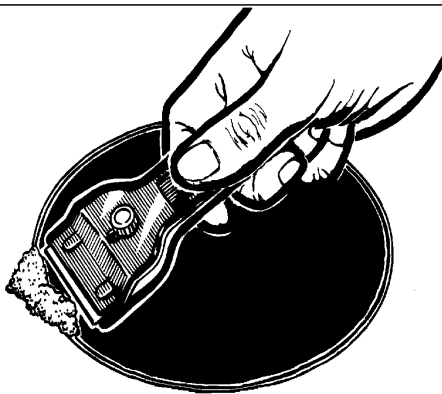

FIG. 5
- Burnt or soiling may be removed with a special razor scraper (fig. 5); **be aware that the razor can cause wounds.**